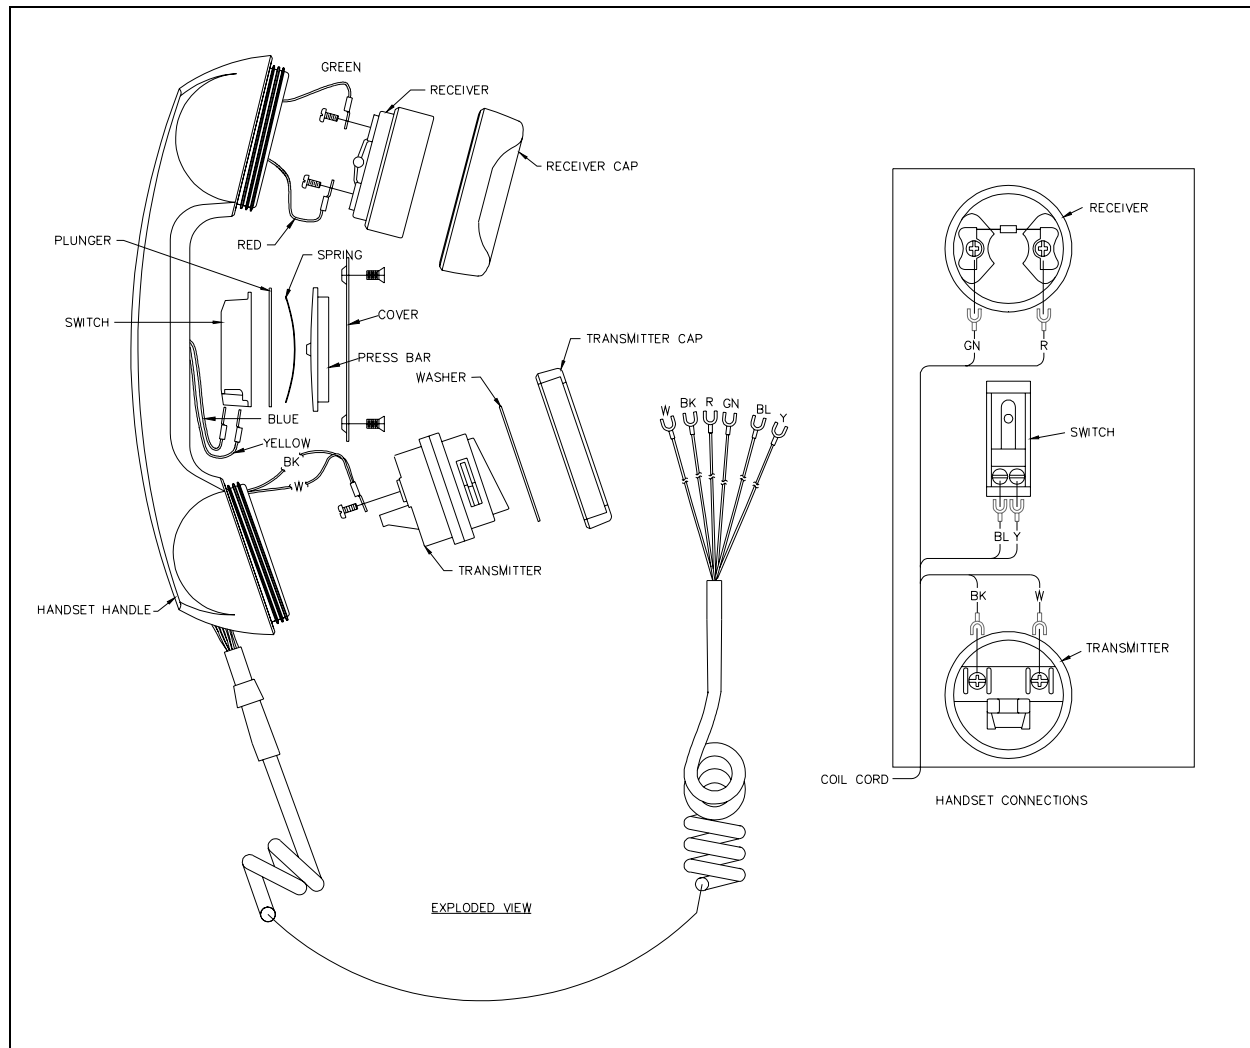

Figure 3. Handset Assembly with Press Bar
5. Remove the lower cap (transmitter cap) from the handset handle. Set aside for re-assembly. Make note the orientation of the transmitter. Pull out the transmitter, loosen the screws holding the wires and disconnect the black and white wires. Refer to Figure 3.